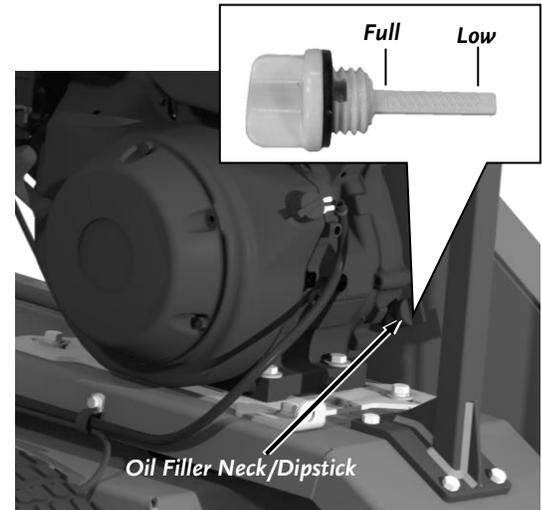
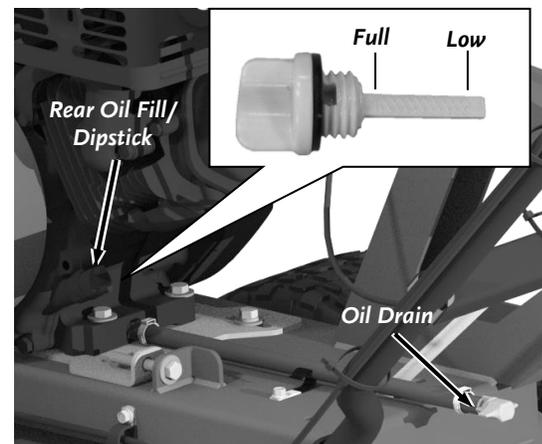

Figure 2
Figure 3
- Position the machine so the Frame and Engine are level. The engine has an Oil Fill in the Front (**Figure 2**) and Rear (**Figure 3**) of the machine. Either can be used to fill the oil.
- Remove the Oil Fill/Dipstick in the Front of Rear of the machine. The Front of the machine is more accessible (**Figure 2**). Clean the end of the Dipstick with a rag.
- Insert the Oil Fill/Dipstick into the Oil Filler Neck as shown in **Figure 2**, but do not screw it in, then remove it to check the oil level.